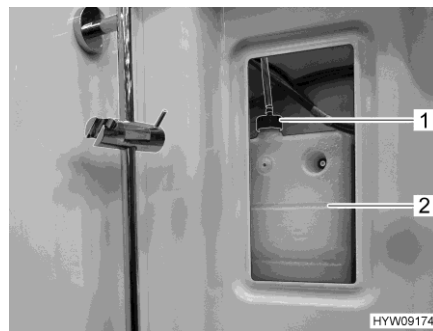
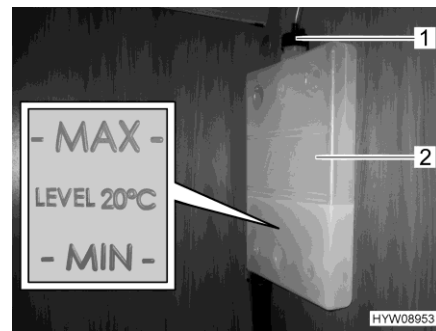

Fig. 228 Compensator reservoir (hot-water heater)
Fig. 229 Marking "MIN/MAX"
- Remove the cover for the compensator reservoir (Fig. 228,2) in the right-hand upper part of the shower.
- Check if the fluid level is between the marks "MIN" and "MAX" (Fig. 229) on the compensator reservoir (Fig. 229,2).
- Open the rotary lid (Fig. 228,1 or Fig. 229,1) on the compensator reservoir.